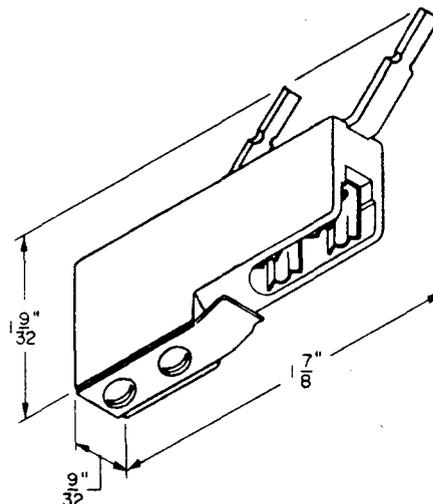

Fig. 17—B Test Clip
**2.26 B Test Clip:** The B test clip (Fig. 17) is used on 121-type protectors and 300-type connectors to provide means for connecting to the cable pairs at the test terminals. This clip is used with the M2EM cord for bypassing the protector.